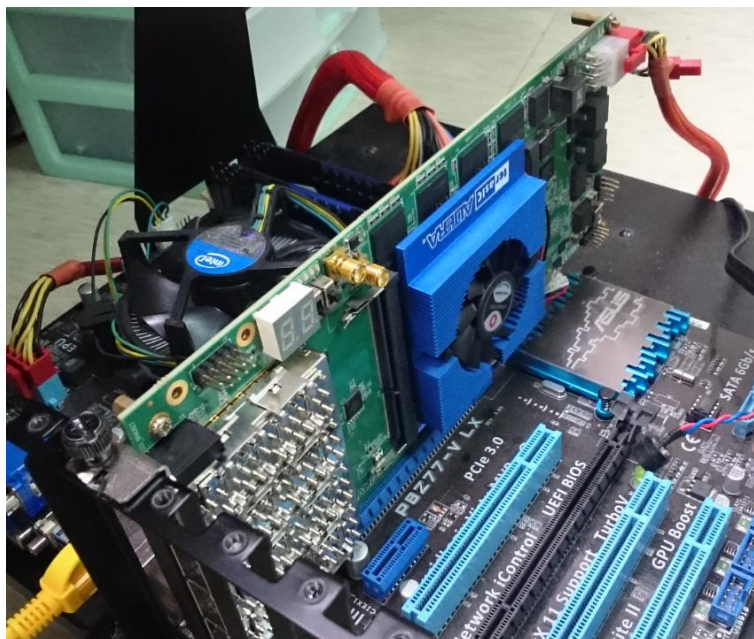

Figure 8-4 FPGA board installation on PC
1. Install the FPGA board on your PC as shown in **Figure8-4**.